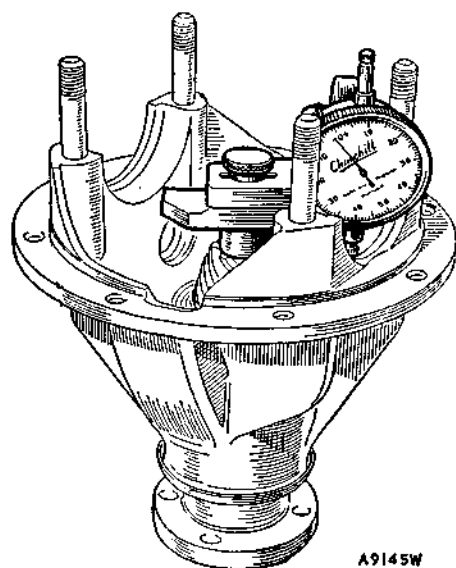

Fig. H.9
7. Clean the pinion head and place the magnet and dial indicator in position (Fig. H.9). Move the indicator arm until the foot of the gauge rests on the centre of the differential bearing bore at one side and tighten the knurled locking screw. Obtain the maximum depth reading and note any variation from the zero setting. Repeat the check in the opposite bearing bore. Add the two variations together and divide by two to obtain a mean reading.